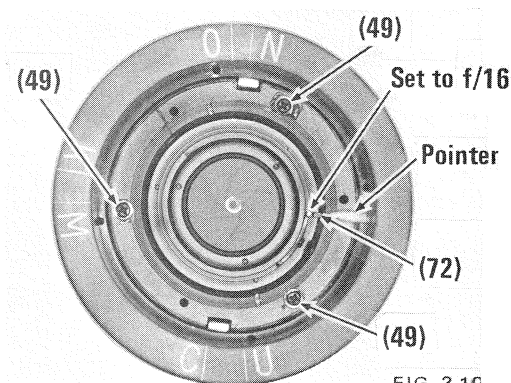

FIG. 3-10
f) Rotate diaphragm housing assembly to align diaphragm actuator arm (72), in the f/16 position, with the pointer. Fig. 3-10.
g) Tighten screws (49) very slightly to hold the diaphragm housing assembly as set.
l) When the position of the diaphragm housing assembly is correctly adjusted, remove the mount, rotate the aperture ring to expose screws (49), seal and tighten.